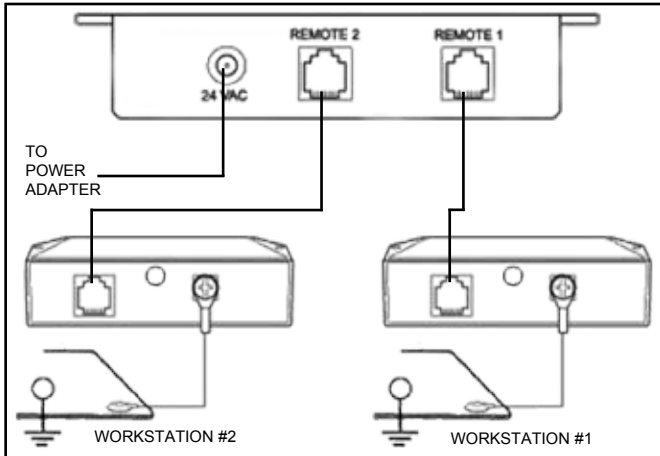

Figure 4. Wiring connection instructions for the 19232 / 19233 monitor control unit.
Figure 4 shows the monitor control unit as it is viewed from the rear, with the work surface wiring in place.
1. Use the rear phone jack connections and connect the Satellite Remote Units to the base unit with the phone cables. See Figure 4 for wiring connection instructions.
4. Confirm that worksurface surface resistance is 1×10^7 ohms or less. Connect the ring terminal end of the worksurface cord included with the unit to the screw on the back of the satellite. Snap the other end to the worksurface grounding point as shown in Figures 4 and 5.